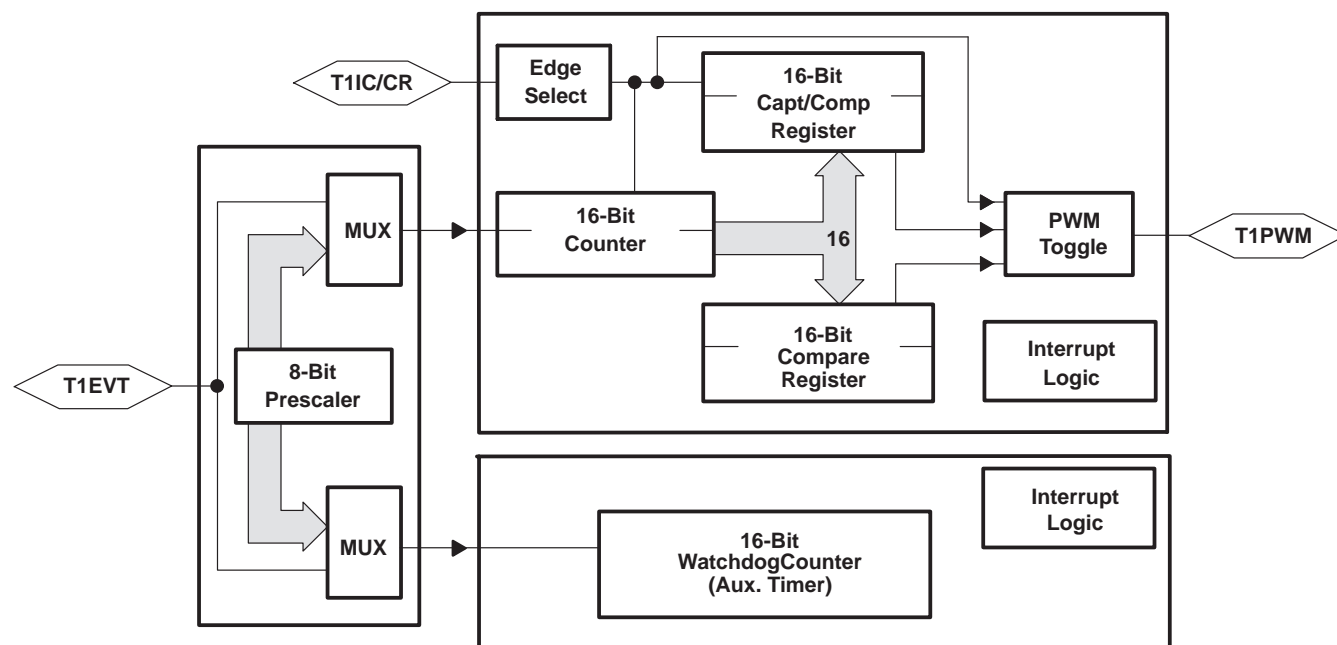

Figure 5. Timer 1 Block Diagram
The programmable Timer 1 (T1) module of the TMS370Cx1x provides the designer with the enhanced timer resources required to perform real-time system control. The T1 module contains the general-purpose timer and the watchdog (WD) timer. The two independent 16-bit timers, T1 and WD, allow program selection of input clock sources (real-time, external event, or pulse accumulate) with multiple 16-bit registers (input capture and compare) for special timer function control. The Timer 1 module includes three external device pins that can be used for multiple counter functions (operation-mode dependent), or used as general-purpose I/O pins. The T1 module block diagram is shown in Figure 5.